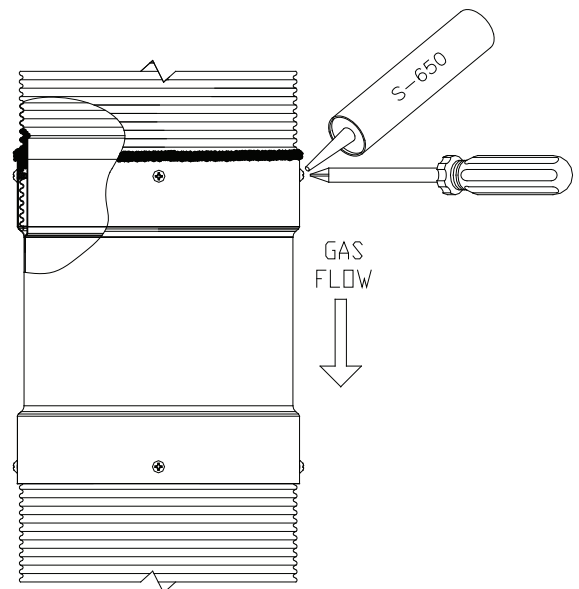

Figure 24 - DuraSeal Flex screws
- 3.5. Add the red S-650 caulking over the screws (**Figure 24**).